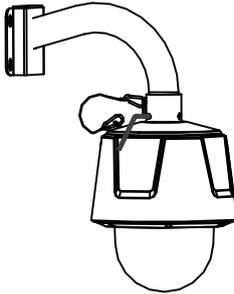

Figure 2-8 Secure the Speed Dome
- 5) Secure the two lock screws with the Allen wrench as shown in Figure 2-8.